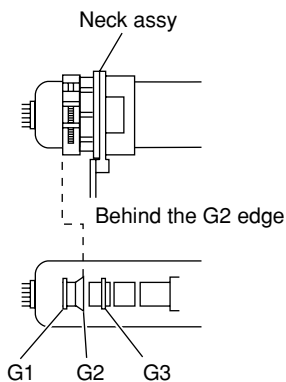

Fig. 5-1
2. Position neck assy as shown in Fig 5-1.
(See Figures 5-1 through 5-3.)